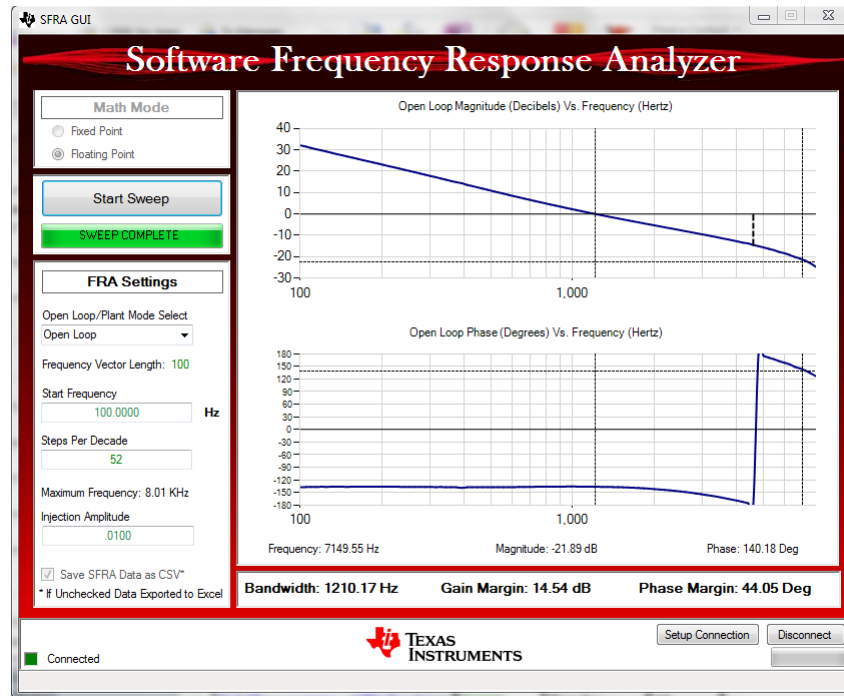

Figure 29. SFRA Run on Closed Current Loop
23. Once complete, a graph will open a loop plot, as shown in Figure 29. This verifies that the designed compensator is stable.